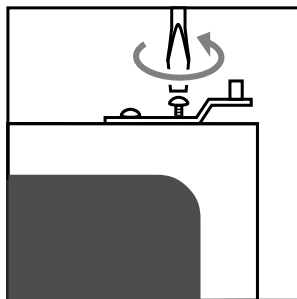

fig. 9b
- Remove the hinge that is now at the top (see fig. 9b). Attention: the ring belongs in the lower hinge.